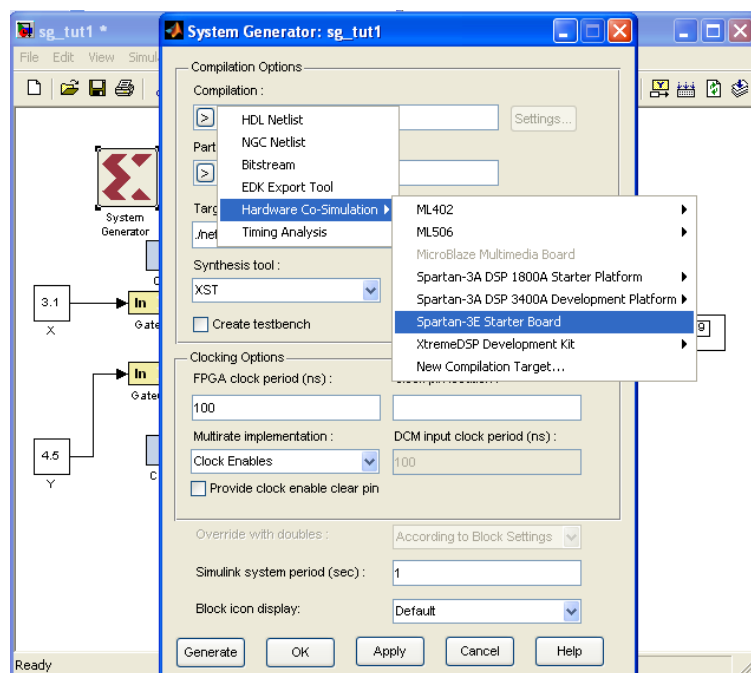

Figure 22: Configure System Generator for HW/SW Co-Simulation - Selecting the new Board
- After installing the new board configuration, the board name “**NEXYS 3 Board**” should appear in the Co-Simulation list in the System Generator properties as shown in Figure 22. Select the board from the list.